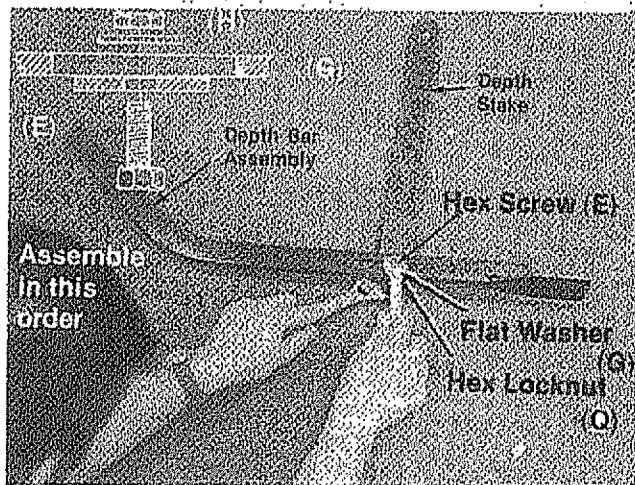

FIGURE 5.
- C. Preassemble depth stake to depth bar assembly with hex screw (E), flat washer (G) and hex locknut (Q). See figure 5. Tighten nut and bolt, but do not over tighten. Parts must pivot.